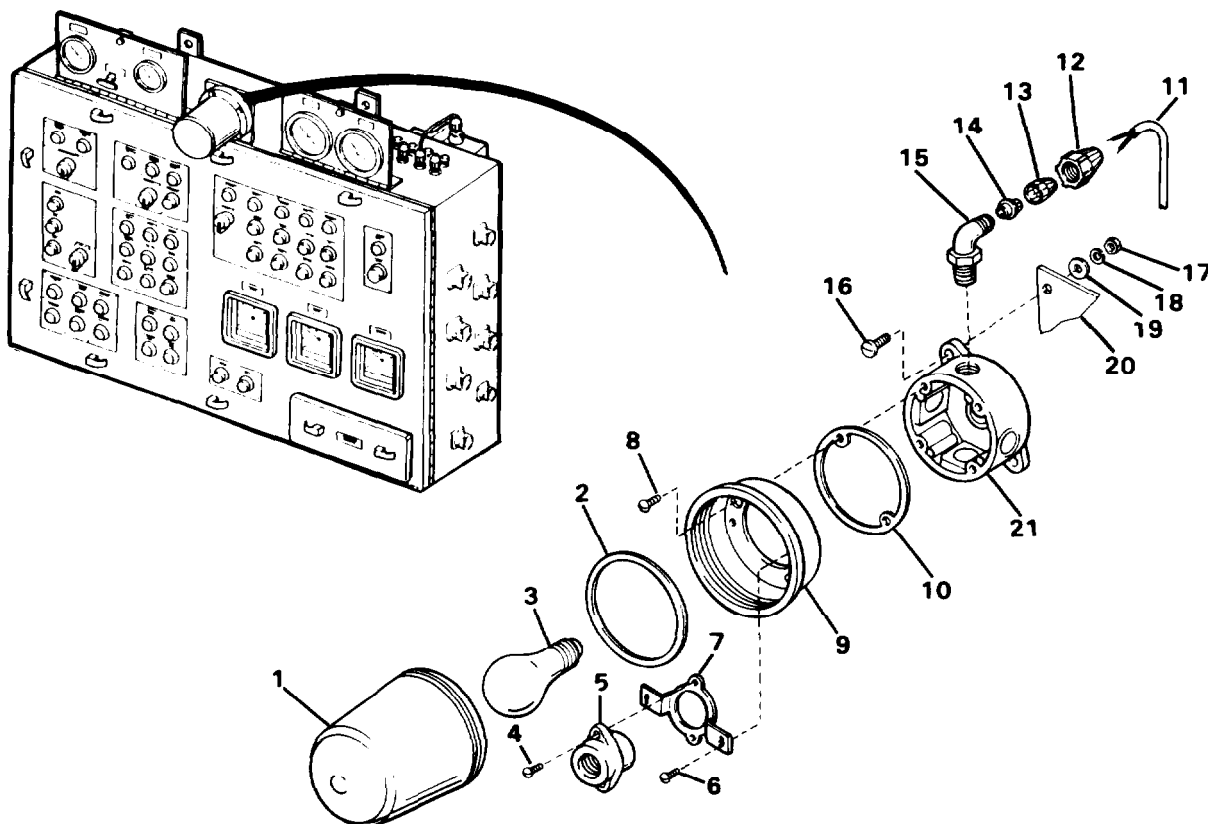

Figure 4-30. Main Control Panel Light
- a. Unscrew globe (1, Figure 4-30).
- b. Remove gasket (2).
- c. Unscrew lamp (3).